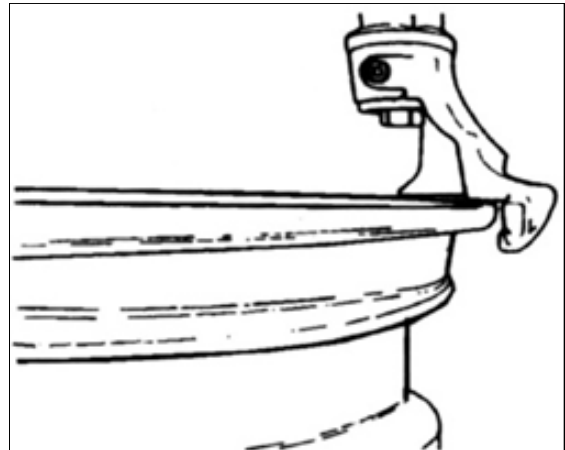

Fig. 27
- Set the vertical slide in the working position, so that the mounting/demounting head is near the rim. The roller in the mounting/demounting head should be 2 mm from the rim to prevent scratching the rim. **(Fig. 27)** Pull the locking handle to lock the vertical slide.